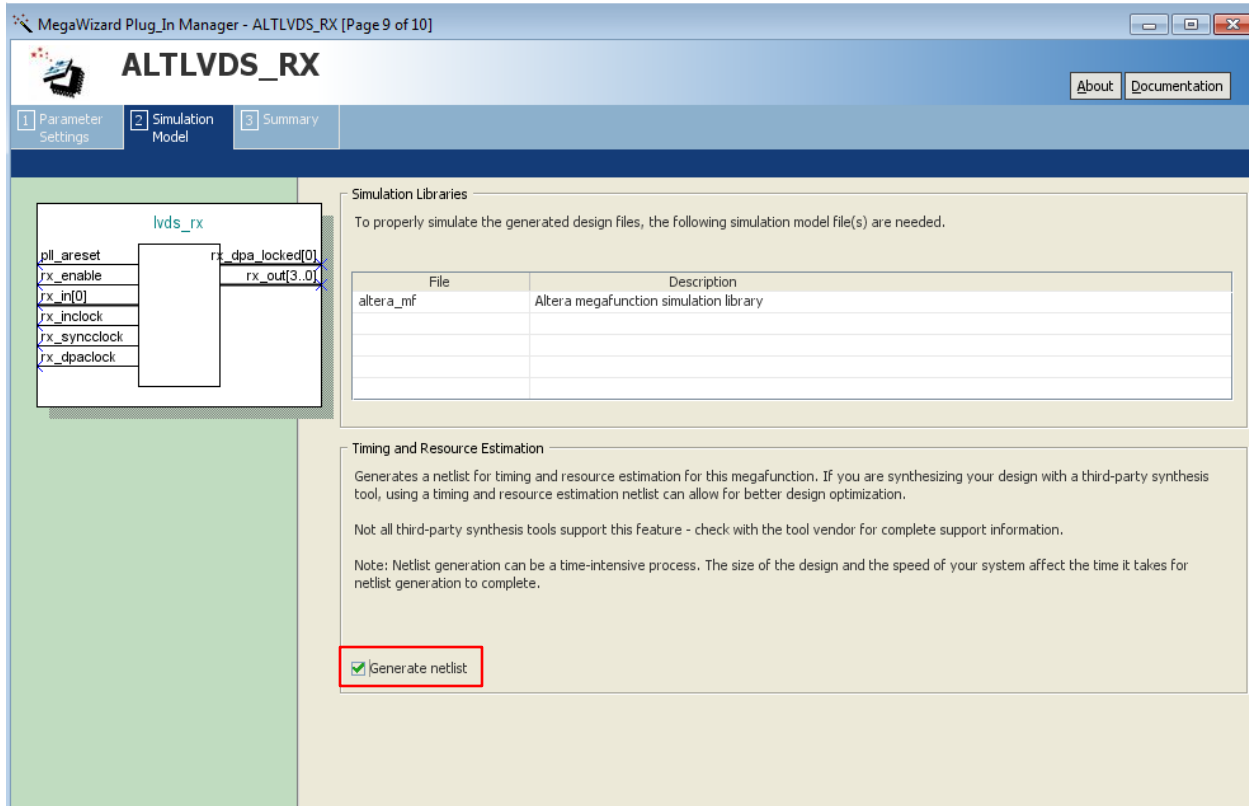

Figure 4-2: ALTLVDS_RX megafunction with **Generate netlist** enabled
- b) Turn on the “**Generate netlist**” option in the ALTLVDS_RX megafunction as shown in Figure 4-2.